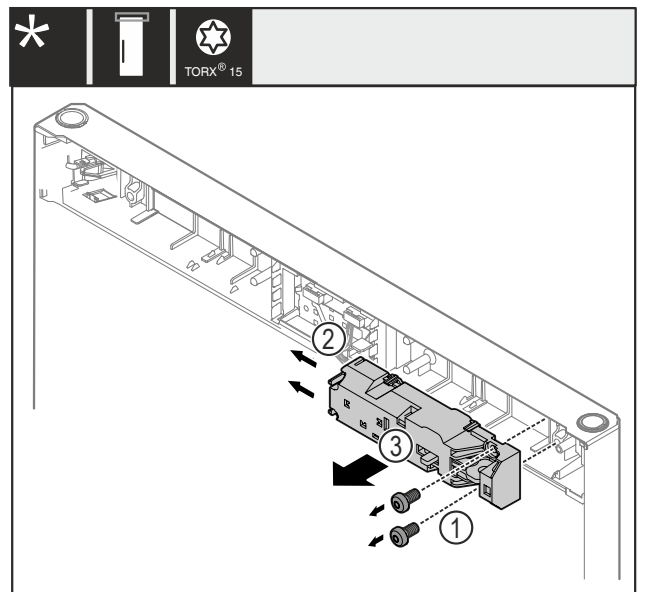

Fig. 20
- ▶ Remove the screws Fig. 20 (1).
- ▶ Push the latching tabs Fig. 20 (2) to the side and remove the remote lock Fig. 20 (3).